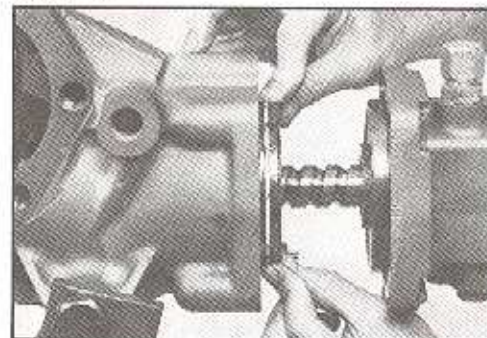

Figure 152
43. Insert the assembled rack piston (35) into housing (47) and position rack teeth to be visible through the side cover opening and the poppet (33) in line with poppet adjusting screw (48). As the rack piston enters the housing bore compress piston ring (34) or (34A) with your fingers and work the rack piston into the assembled position. SEE FIGURE 152.